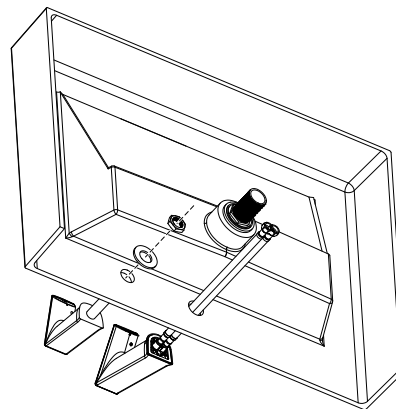

Figure 5
5. Install Faucet and Soap spouts, (Figure 5) onto sink according to manufacturer's instructions provided with component.